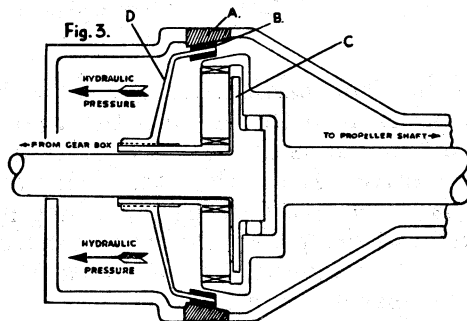

Fig. 3 Overdrive in operation.
When overdrive is engaged (Fig. 3) a valve in the unit is opened, applying hydraulic pressure from the pressure accumulator to two pistons which work in cylinders formed in the unit housing. These pistons exert pressure against the cone clutch member, overcoming the spring pressure and pushing the cone clutch (D) away from the annulus until the outer lining (B) presses against a conical brake ring (A) built into the main casing.